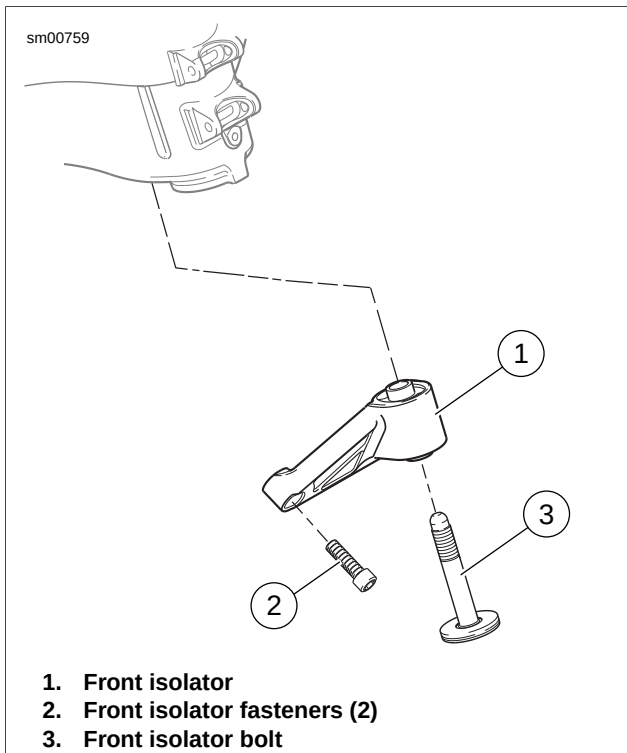

Figure 3-36. Front Isolator
9. See Figure 3-36. Insert front isolator bolt (3) through front isolator (1) and loosely thread into frame. Do not tighten at this point.
10. Install isolator mounting fasteners (2) and tighten to 49-51 ft-lbs (66-69 Nm).